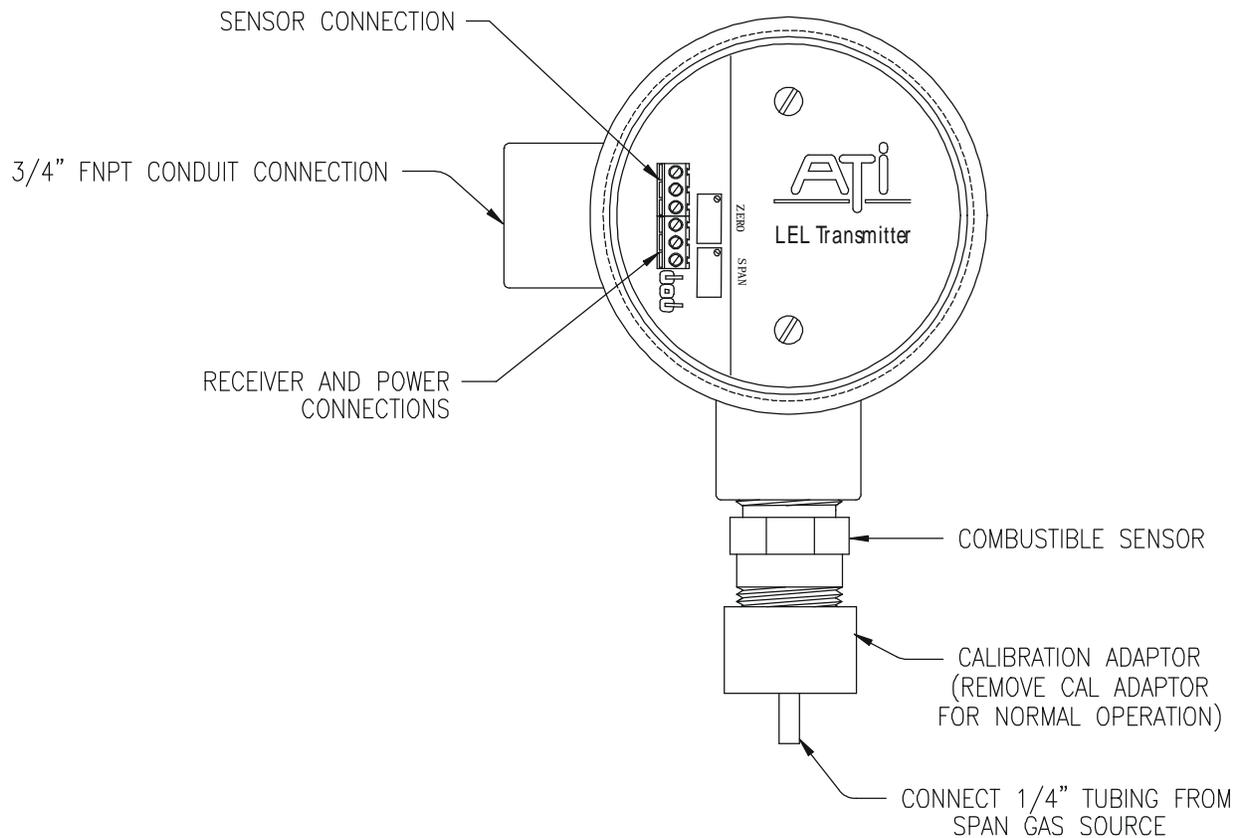

Figure 7 - Sensor/Transmitter Connectors, Controls and Test Points (ATI-0143)
Prior to calibration, remove the cover from the sensor/transmitter enclosure and connect a DVM to the test points (TP) shown in Figure 7. If the receiver for the system is near enough to easily see, you may use the digital display on the receiver instead of a DVM on the test points. The test points will provide a 40-200 mv. signal proportional to transmitter range. For a standard 0-100% LEL unit, 0% is 40 mv. and 100% is 200 mv.
To observe the response at the transmitter, it is necessary to connect a DVM to the test points indicated in Figure 7. If the receiver is nearby, you may simply observe the digital display on the receiver. If the sensor does not respond, it should be replaced.